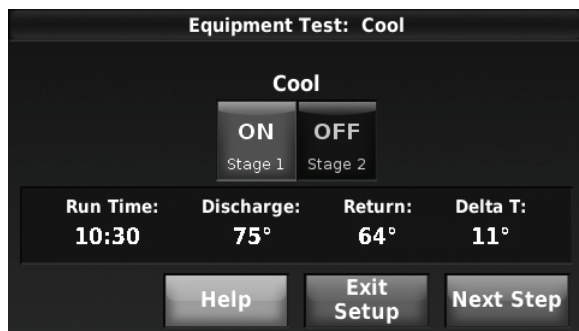

Fig. 158.
2. For each stage you test, wait until Delta T begins to stabilize, then turn on the next stage (if present). See Fig. 158 for an example.
4. When setting the run time, select a setting based on when Delta T began to stabilize during the equipment test. In the example shown in Fig. 158 and 160, Delta T began to stabilize around 10-11 minutes.